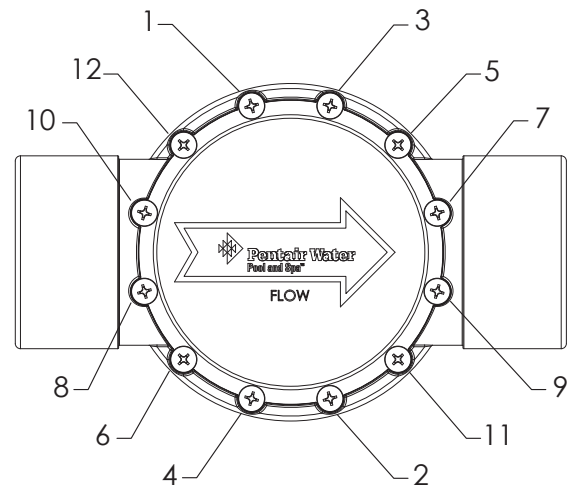

Figure 6.
Check Valve Top Cover- Removal and Installation (see Figure 6 and 7)
To install the check valve top cover (see Figure 6 and 7)
3. Install the twelve (12) cover screws. Using a No. 2 Phillips screwdriver, torque screws sequentially to 36 lb*in (4.1 N*m). using the tightening sequence shown in Figure 6. Verify that the check valve flapper is oriented in the proper direction.